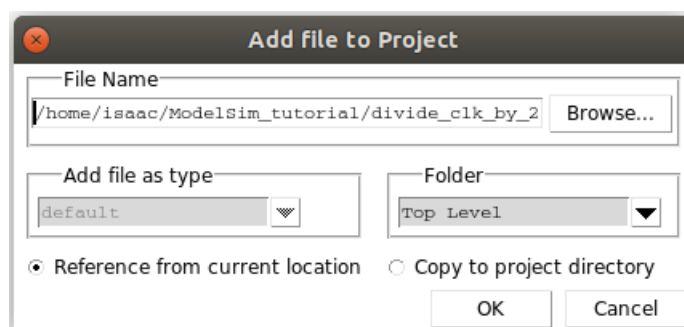

Figure 4: Adding project files.
6. As shown in Figure 4, make sure that **Reference from current location** is selected and select **OK**. After this, you should see something similar to Figure 5.